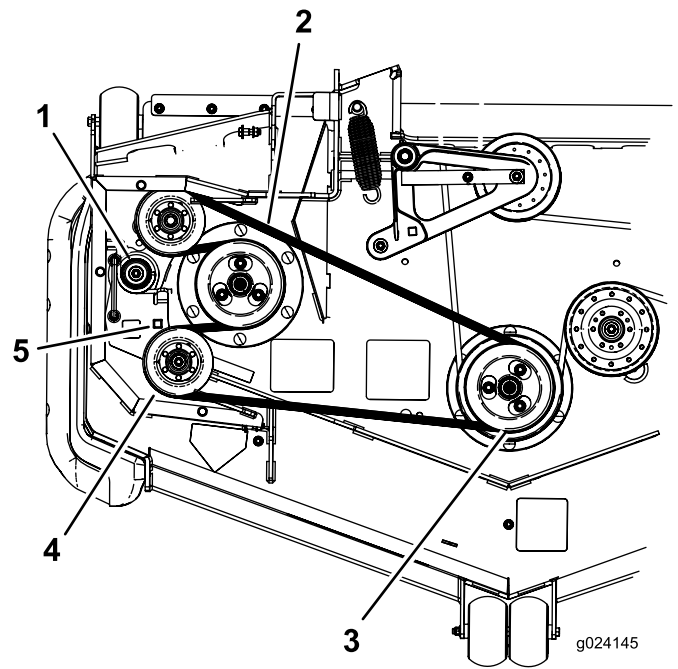

Figure 72
7. Use a ratchet in the square hole in the idler arm to remove tension on the idler spring (Figure 72).